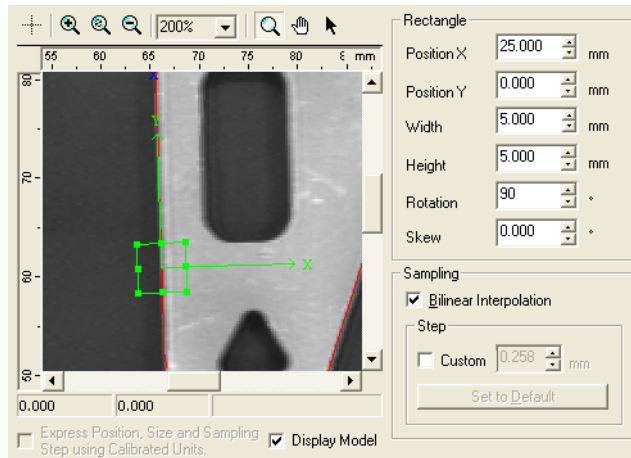

Figure 40 Adjusting the Size, Position and Orientation of the Edge Locator Rectangle
8. Place the Rectangle on the part as shown in Figure 40. Click the arrow of the X-axis and drag it to adjust the rotation to 90 degrees (the Y-axis is used to adjust the skew). Click the center of the Rectangle and drag it into position. Use the corner and side handles to adjust the width and height of the Rectangle. Fine-tune the position with the text boxes if needed. Once it is placed, click **Execute**.